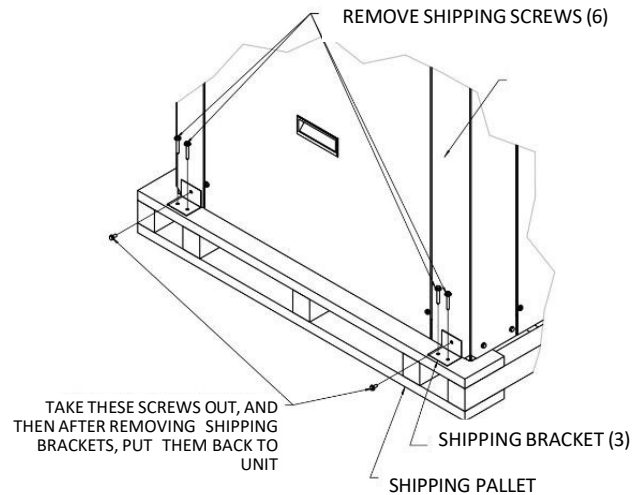
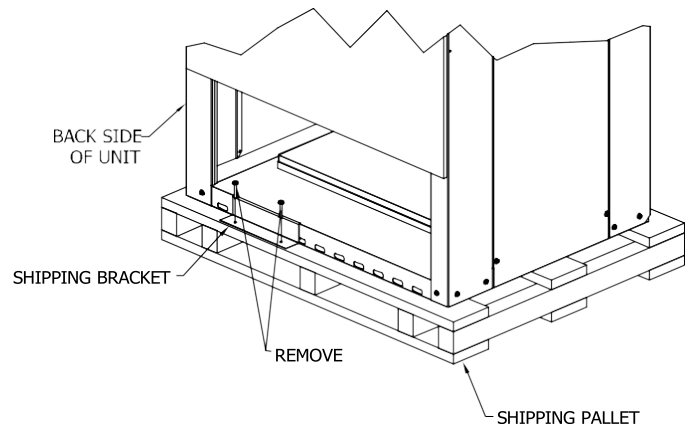

Figure 3 - Standard Packaging with Brackets – Front View
Figure 4 - Standard Packaging with Brackets - Back View
- 10) Ensure that shipping brackets and screws are removed from condensing section. Refer to FIGURE 3 - Standard Packaging with Brackets – Front View & FIGURE 4 - Standard Packaging with Brackets – Back View for more information.